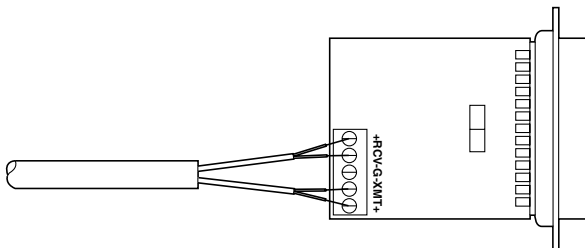

Figure 4-7. Terminal Block with Wires Connected.
- When you finish connecting the wires to the terminal block, the assembly should resemble **Figure 4-7**.